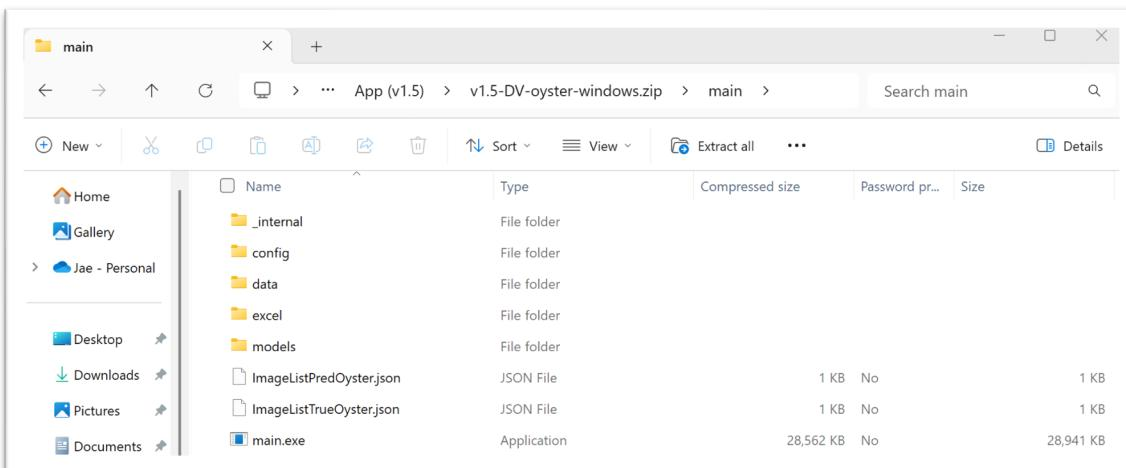

Figure 1.2. The files inside of the “main” folder.
3. Double click “v1.5-DV-oyster-windows.zip” and inside you should see a folder named “main”. Open this folder and inside you should see the files shown Figure 1.2.